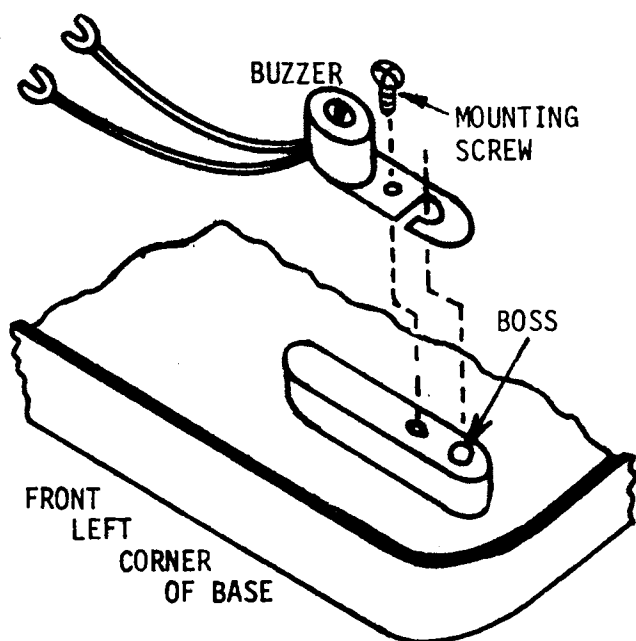

Figure 4.2
4.10 An AC buzzer may be installed in the telephone to provide signalling in a system which does not have call-announcing. Buzzers may NOT be mixed with other types of signalling. The buzzer is installed to the left of the line key assembly as shown in Figure 4.2. The buzzer leads are connected to terminals AG and K1 of the DTB board after removing the strap ② from K1 to K2. Strap connector 'P' as shown in Table 4.3.